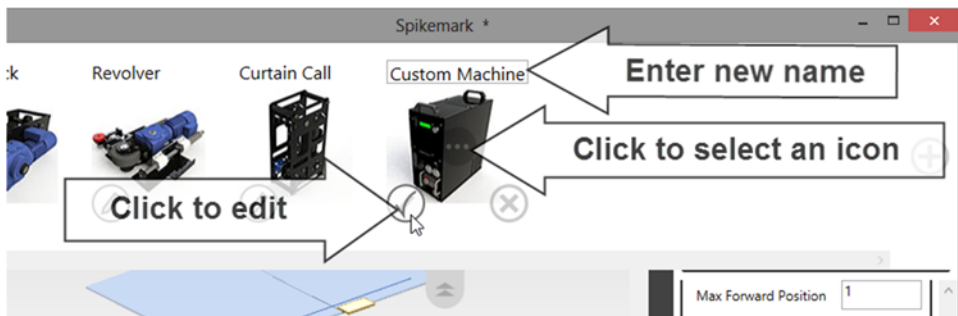

Figure 171
6. Click the Edit button to change the name of the Machine Library item (Figure 171).